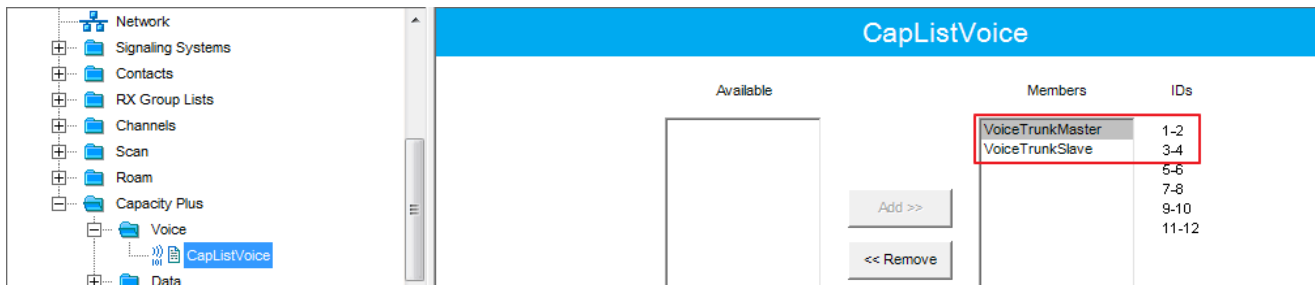

Fig. 16 - Adding channels to the Members list
9. In the **Channels** section create a trunk channel dedicated to data transmission and do the following settings (Fig.16).